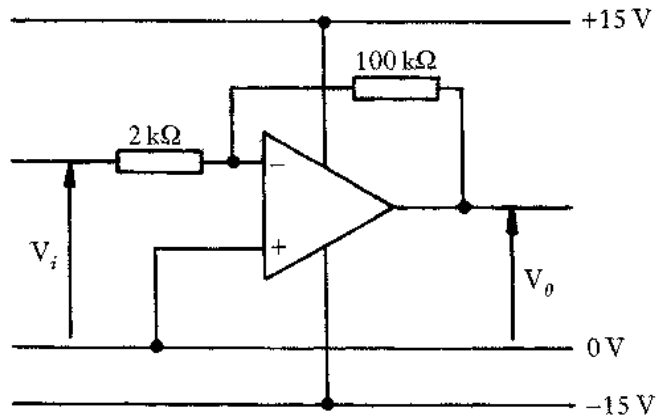

Figure Q2
2. (a) Name the configuration of amplifier shown in Figure Q2. 1
- (4)**